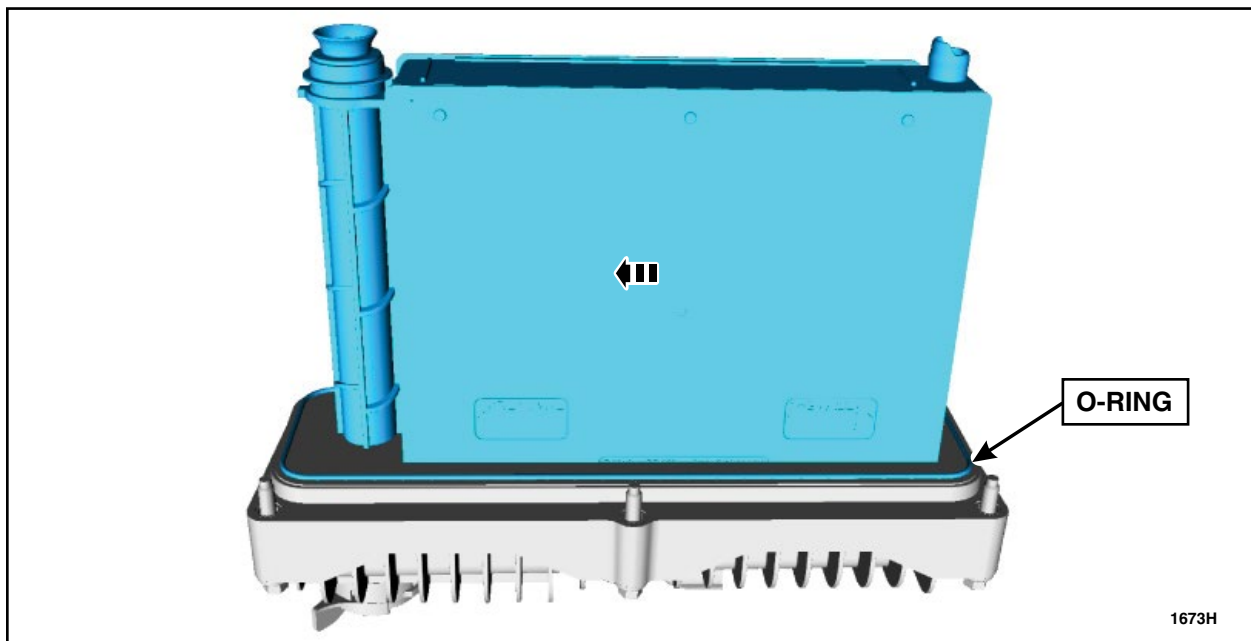

FIGURE 5
8. Slide the fuel filter element to unlock it from the fuel conditioning module bottom cover. Remove the fuel filter element. See Figure 5.